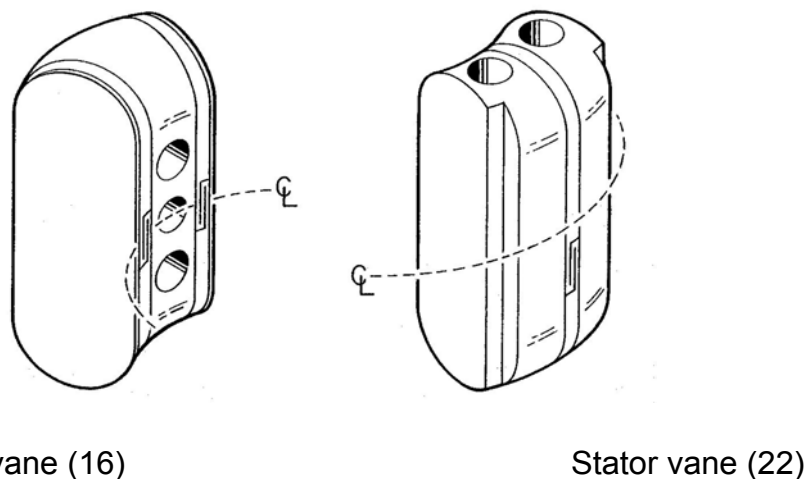

Figure 4-10 Location of expanding cut in seal
1. Install the 2 shaft seals (10),(11) in the outer grooves of both case halves (9),(25) *1 two-piece seals in each case half*. Install the 4 rotary shaft seals (12)(13) in the remaining grooves of both case halves *2 two-piece seals in each case half*. Place O-ring (13) in the seal groove first, then fold seal ring (12) inward on itself to form a "kidney" shape so it can be inserted through the bore and into the grooves. Release the seal ring allowing it to expand and fill the groove on top of the O-ring. Work seal into the groove and use fingers to remove any creases caused by bending. Make certain that both parts of the seal are installed in a seal groove and not a fluid passage. It is hard to see the O-ring once installed in the groove so be systematic about installing the seals.
2. Place O-rings (20) in grooves of vanes (16)(22). Install seals (19) into groove of vanes. Expanding cut in the seals must be positioned as shown in Figure 4-10 and Figure 4-11. Attach vane (16) to shaft (21) using dowel pins (17) and screw (18). Use Loctite 242 on screw.